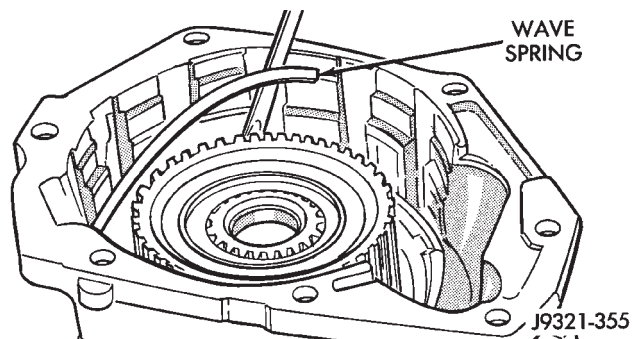

Fig. 64 Overdrive Clutch Wave Spring Installation
(2) Install wave spring on top of reaction ring (Fig. 64). **Reaction ring and wave ring both fit in same ring groove.** Use screwdriver to seat each ring securely in groove.